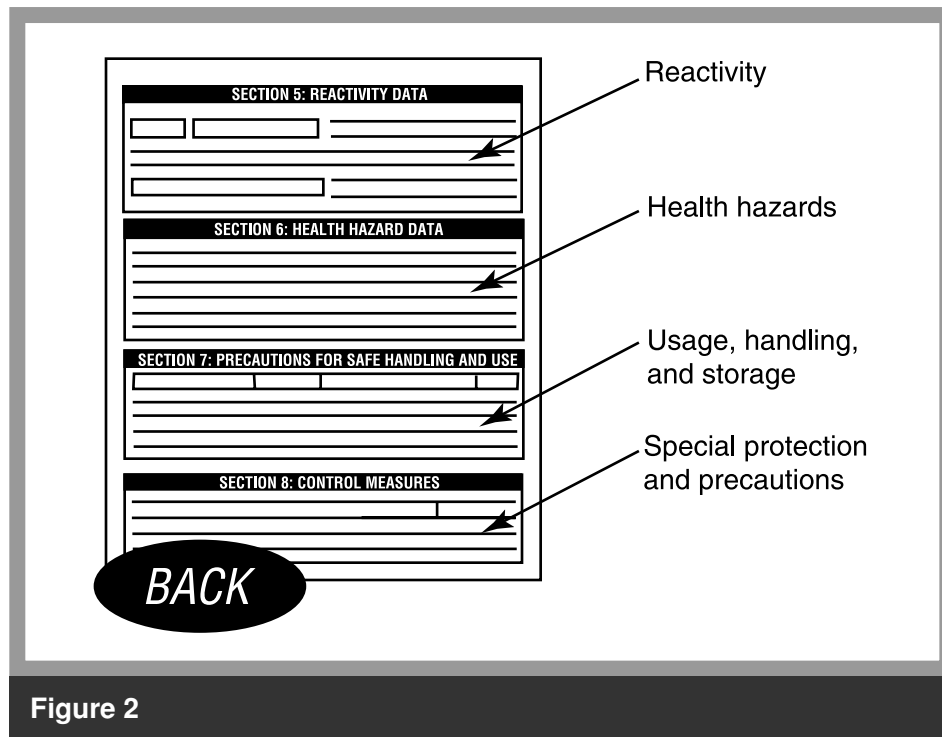

Figure 2
**Reactivity** (see Figure 2 on the next page). Describes what happens if this chemical comes in contact with air, water, or other chemicals. Describes conditions (like heat) or materials (like water) that can cause the chemical to react by burning, exploding, or releasing dangerous vapors. The chemical is called “incompatible” or “unstable” with these conditions or substances.
**Health hazards** (see Figure 2 on the next page). Lists ways the chemical might enter your body, like splashing on your skin or being breathed in as vapor, as well as possible symptoms of overexposure. Lets you know if overexposure might make existing medical conditions worse, and describes emergency first-aid procedures.
**Usage, handling, and storage** (see Figure 2 on the next page). Describes how to clean up an accidental spill, leak, or release, including special procedures. Tells you how to handle, store, and dispose of chemicals safely. Remember, if there is an accident, notify your supervisor immediately. Take care of it yourself only if you are trained to do so and are wearing the proper equipment.
**Special protection and precautions** (see Figure 2 on the next page). Explains special personal protective equipment (PPE) and other equipment to use when working with the chemical, special procedures, extra health or safety information, signs that should be posted, and other information not covered in other sections.